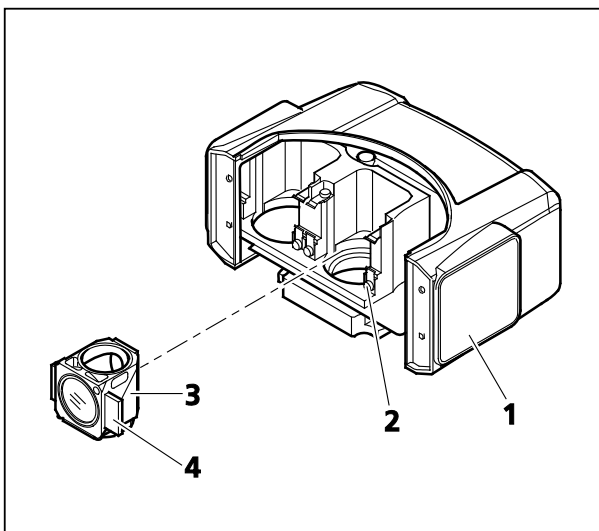

Figure 3-7 Replacing a reflector module in the reflector insert
(1) Installing a module
- Take the reflector insert (Figure 3-7/1) out of the stand top part (see section 3.1.6), turn it to the top side, and lay it down.
- Insert the module (Figure 3-7/3) with the holder elements mounted to the right and to the left (Figure 3-7/4) at an angle from above into the lower spring brackets (Figure 3-7/2) of the reflector holder.
(2) Removing a module